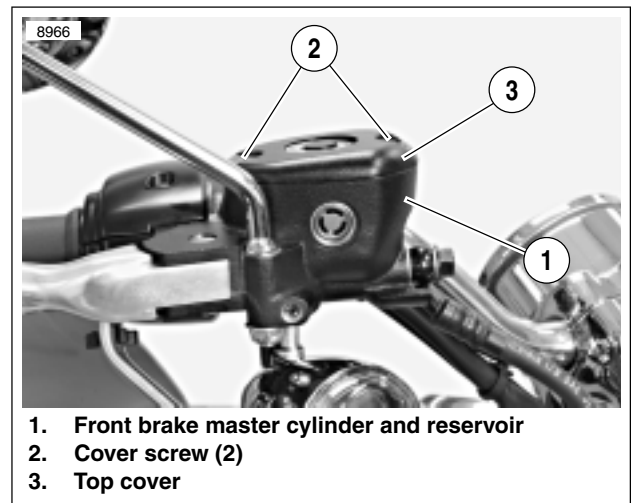

Figure 1-14. Front Brake Master Cylinder Reservoir
1. See Figure 1-14. Position motorcycle so that top of front master cylinder reservoir (1) is level.